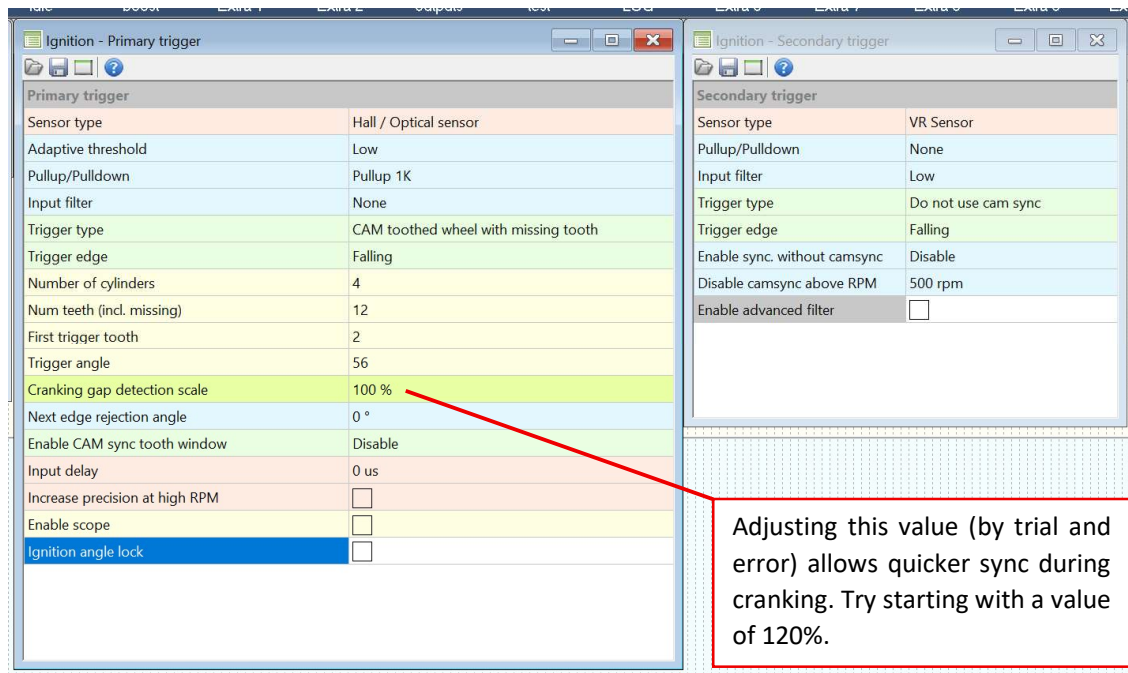

Figure 15 - ECUMaster Trigger Setup
10. Hardware installation is now complete. Assemble everything back together and perform the wiring. The wiring pinout is on figure 15 of this installation guide.